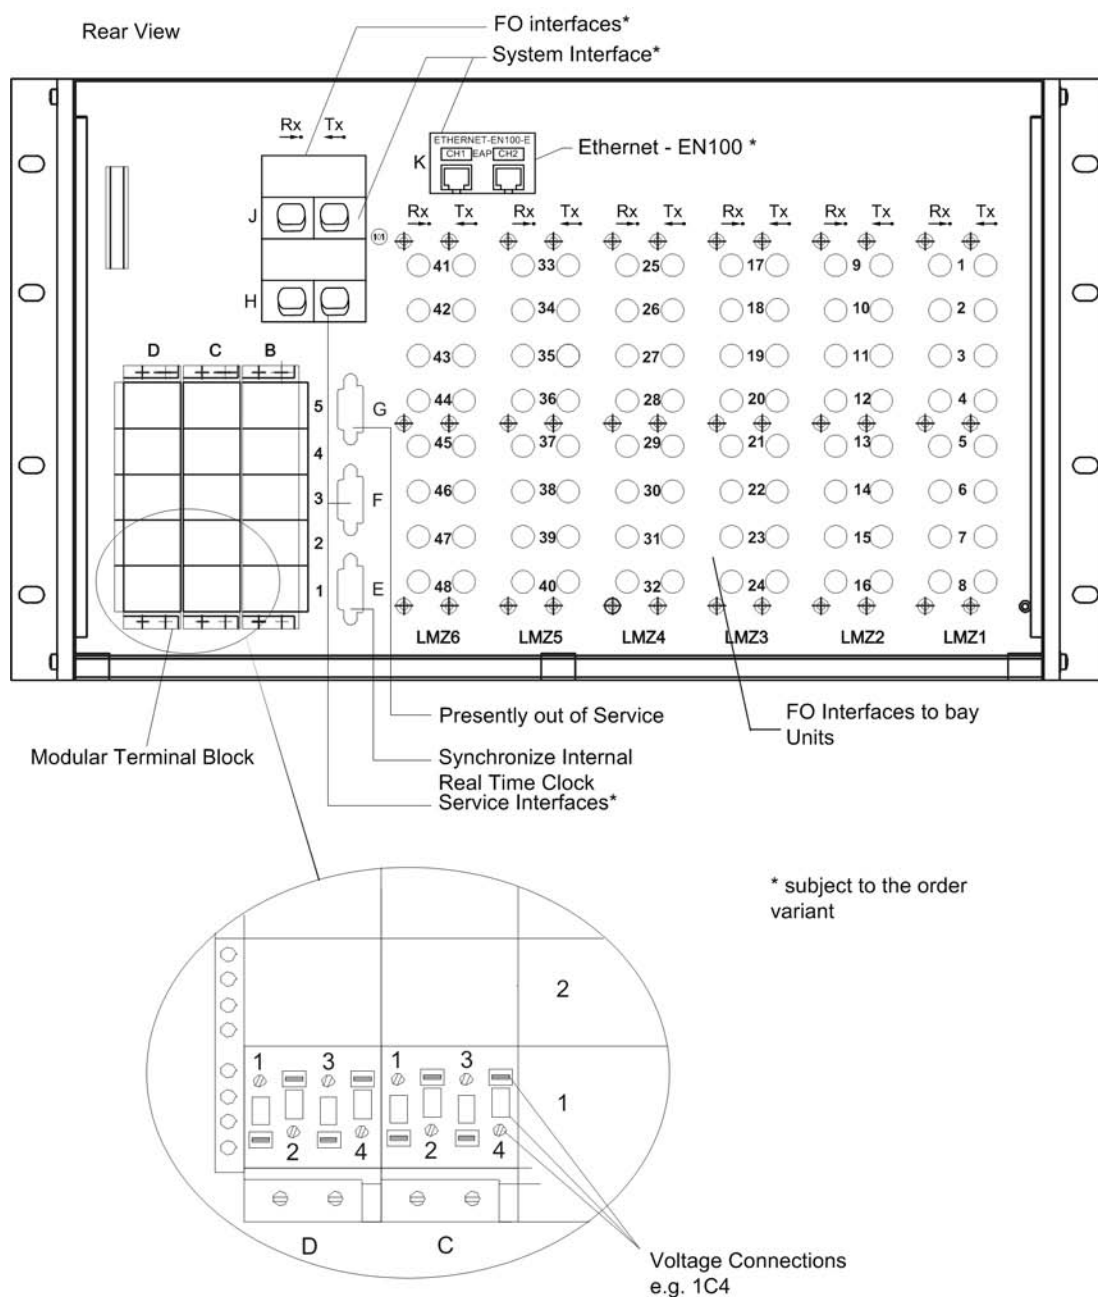

Figure 2-6 Device connections on central unit
On the rear side of the central unit, terminal blocks are provided for the external electrical connection of the power supply module (SV), the I/O module (EAZ) and the communication module (D-CPU). For each electrical connection point, there is one screw-type and one snap-in connector for the station wiring. The terminal blocks are identified according to their position in a coordinate system. The connections inside a block are numbered from left to right, see the example in Figure 2-6, page 22.
Central unit	<p>Depending on the variant ordered, the service and the system port on the rear of the central unit may have additional fiber-optic connections (Figure 2-6, page 22).</p> <p>Moreover, the central unit is connected with the bay units by fiber-optic cables. The bay unit connectors are located on the back of the central unit (Figure 2-6, page 22).</p>